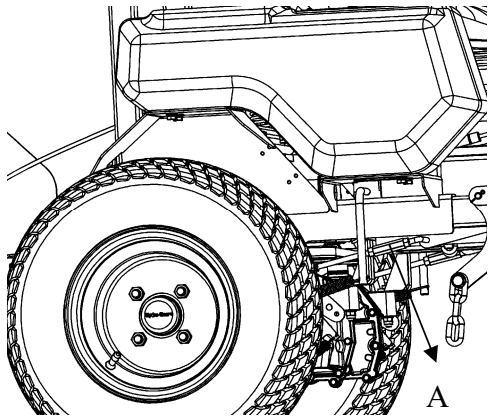

Fig. 21
- If the right wheel need to be adjusted, locate the position A(Refer to Fig. 21) .